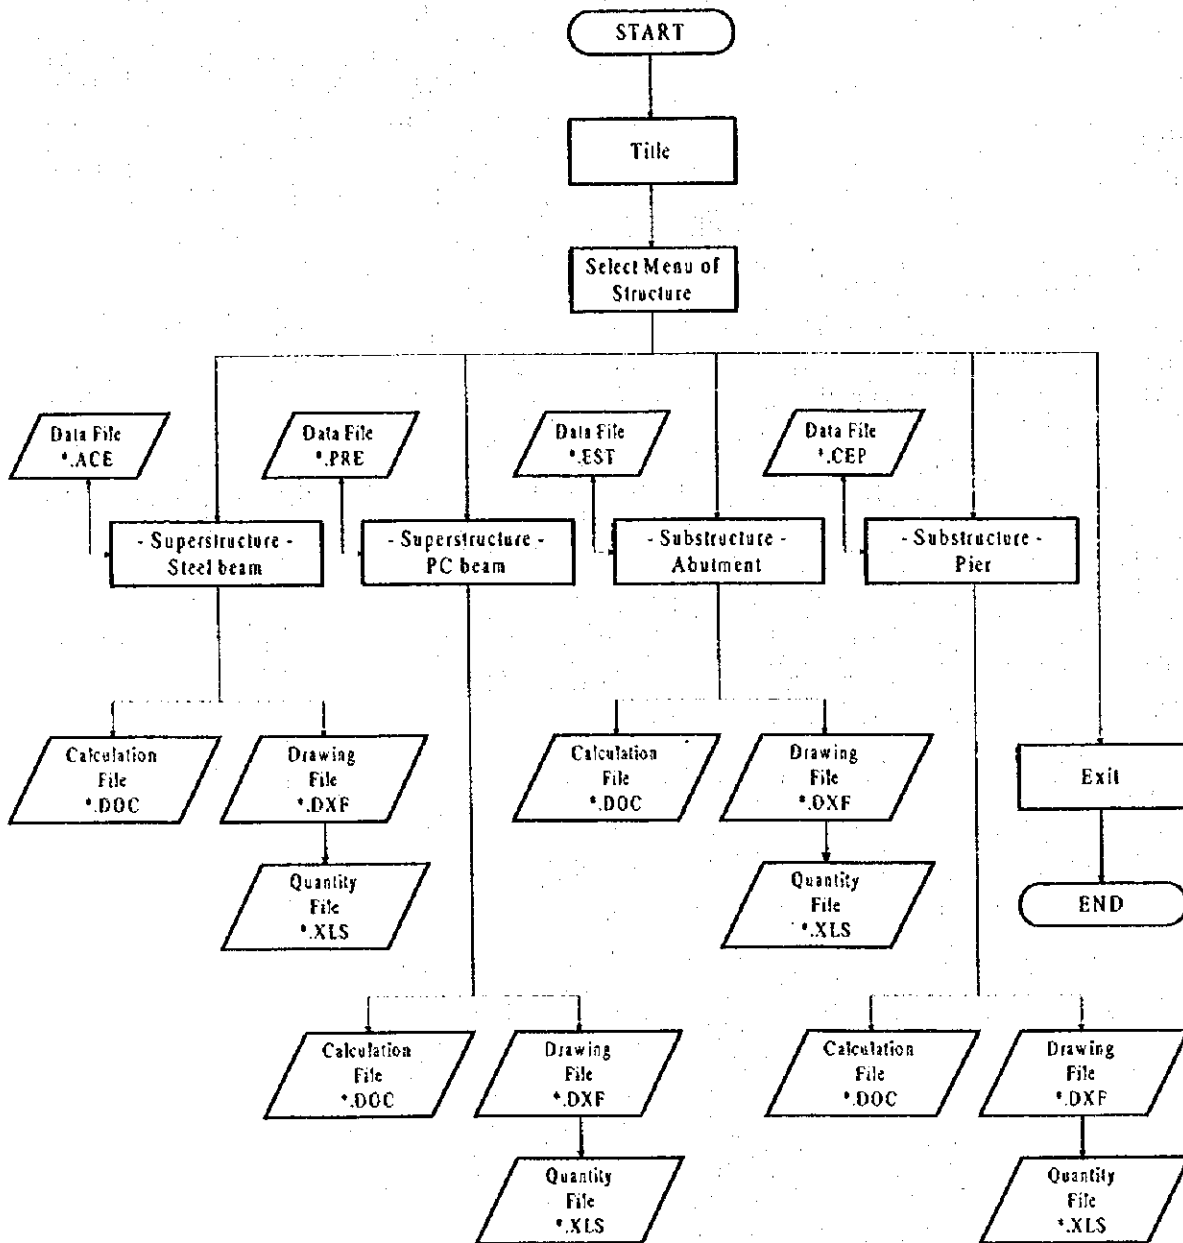

Figure 1.2 Outline of Whole CADD Program System
- The outline of the whole CADD program system is illustrated in Figure 1.2.